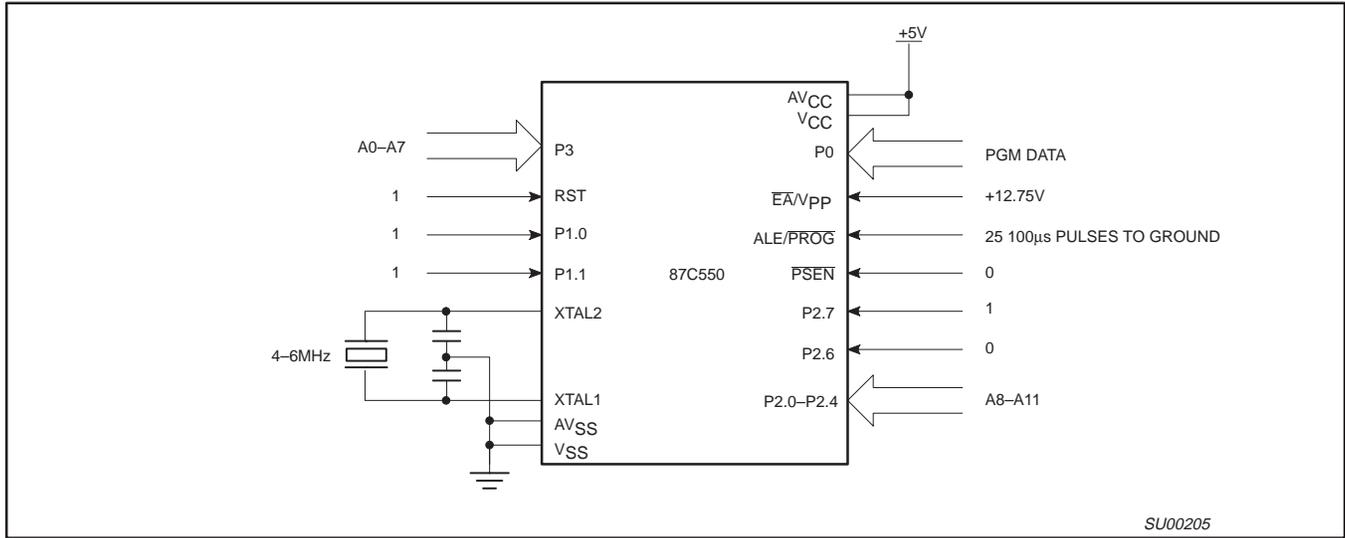
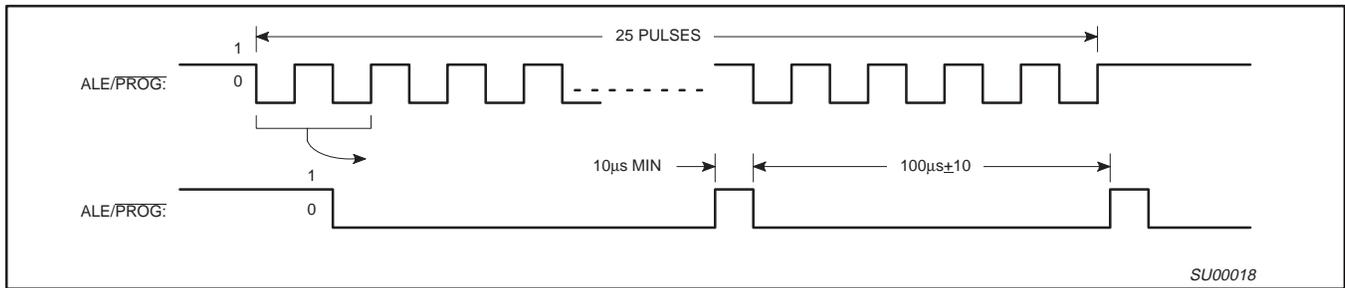
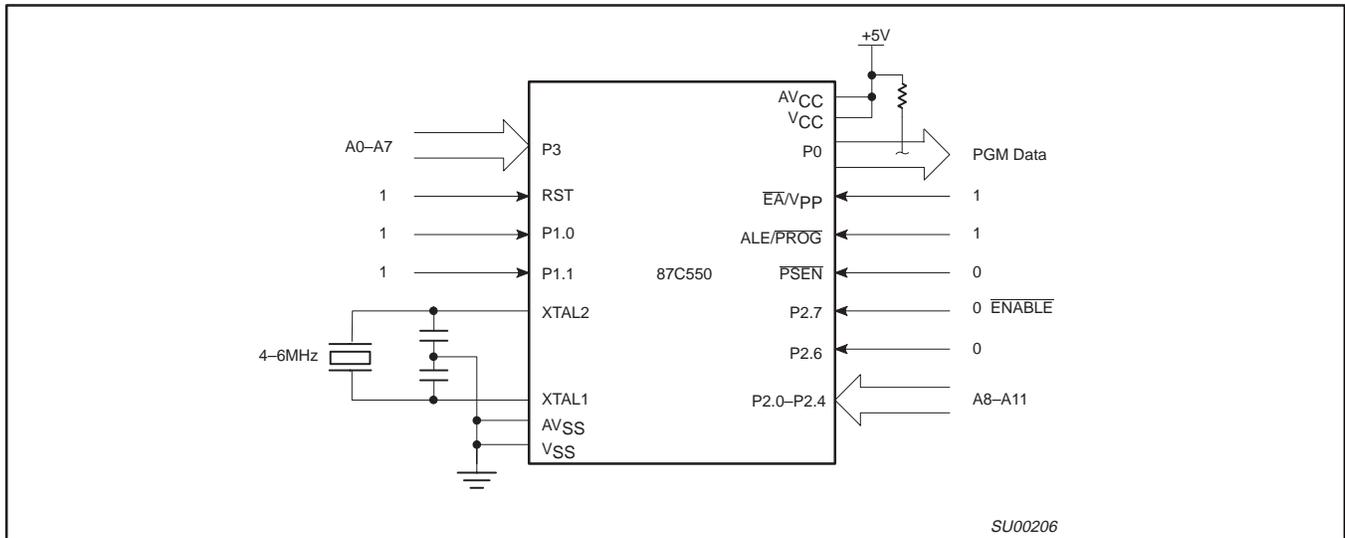

Figure 17. Programming Configuration
Figure 18. PROG Waveform
Figure 19. Program Verification
Table 4 shows the logic levels for reading the signature byte, and for programming the program memory, the encryption table, and the lock bits. The circuit configuration and waveforms for quick-pulse programming are shown in Figures 17 and 18. Figure 19 shows the circuit configuration for normal program memory verification.
The setup for microcontroller quick-pulse programming is shown in Figure 17. Note that the 87C550 is running with a 4 to 6MHz oscillator. The reason the oscillator needs to be running is that the device is executing internal address and program data transfers.
The address of the EPROM location to be programmed is applied to ports 2 and 3, as shown in Figure 17. The code byte to be programmed into that location is applied to port 0. RST, PSEN and pins of ports 1 and 2 specified in Table 4 are held at the 'Program Code Data' levels indicated in Table 4. The ALE/PROG is pulsed low 25 times as shown in Figure 18.
If security bit 2 has not been programmed, the on-chip program memory can be read out for program verification. The address of the program memory locations to be read is applied to ports 2 and 3 as shown in Figure 19. The other pins are held at the 'Verify Code Data' levels indicated in Table 4. The contents of the address location will be emitted on port 0. External pull-ups are required on port 0 for this operation.
* FOR PROGRAMMING VERIFICATION, SEE FIGURE 17.
FOR VERIFICATION CONDITIONS, SEE FIGURE 19.